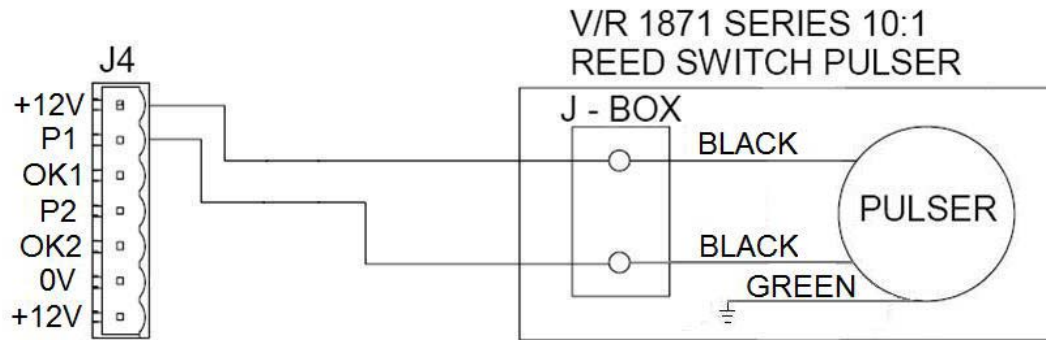

Figure 4-18. Connecting to Veeder-Root 1871 Pulser
See Figures 4-18 through 4-25 for pulser connection diagrams. Typical connections to mechanical pulsers are with two or three conductors. All mechanical pulsers will require a 12 VDC input to return a 12 VDC pulse for the FMU. Many will also require a third conductor connection to 0V ground, or common.
- 1) Determine the pulser wiring requirements by comparing the selected pulser with Figures 4-18 through 4-24.